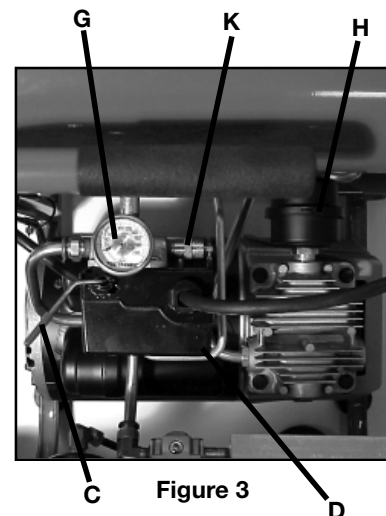

Figure 3
ON/AUTO - OFF Switch (C) Fig. 3: Turn this switch ON to provide power to the automatic pressure switch and OFF to remove power at the end of each use.
Pressure Switch (D) Fig. 3: The pressure switch automatically starts the motor when the tank pressure drops below the factory set "cut-in" pressure. It stops the motor when the air tank pressure reaches the factory set "cut-out" pressure.
Tank Pressure Gauge (G) Fig. 3: The tank pressure gauge indicates the reserve air pressure in the tank.
Air Intake Filter (H) Fig. 3: This filter is designed to clean air flowing into the pump. This filter must always be clean and free from obstructions. Twist filter cover counter-clockwise to remove and expose paper filter element.
Safety Valve (K) Fig. 3: If the pressure switch does not shut off the air compressor at its cutout pressure setting, the safety valve will protect against high pressure by “popping out” at its factory set pressure (slightly higher than the pressure switch cut-out setting).
10. Pull ring on safety valve (K) Fig. 3, allowing air to bleed from the tank until tank pressure is approximately 20 psi. Release safety valve ring.
NOTE: If drain valve is plugged, pull ring on safety valve (K) Fig. 3, and hold until all air pressure has been released. The valve can then be removed, cleaned, and reinstalled.